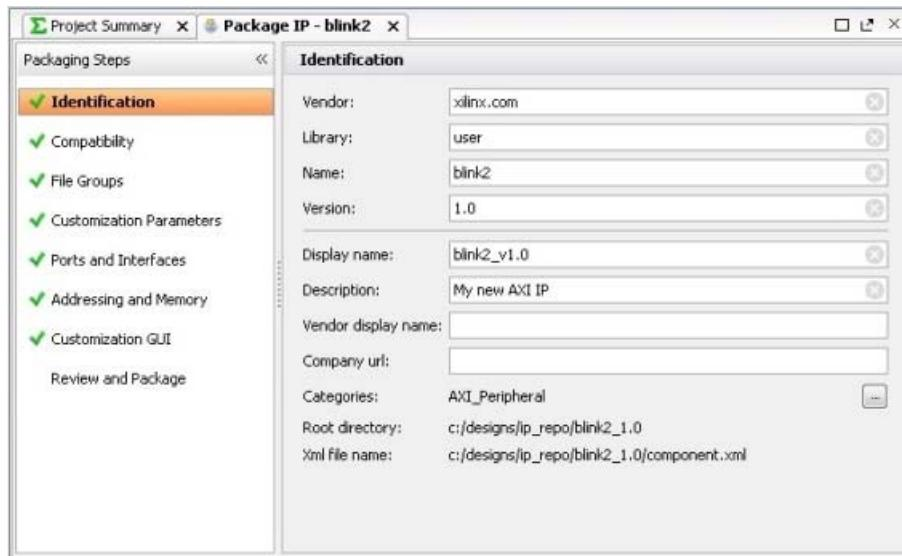

Figure 7-2: Package IP Tab
7. In the Create Peripheral window, select Edit IP and then click Finish. Upon completion of the new IP generation process, the Package IP tab opens (Figure 7-2).